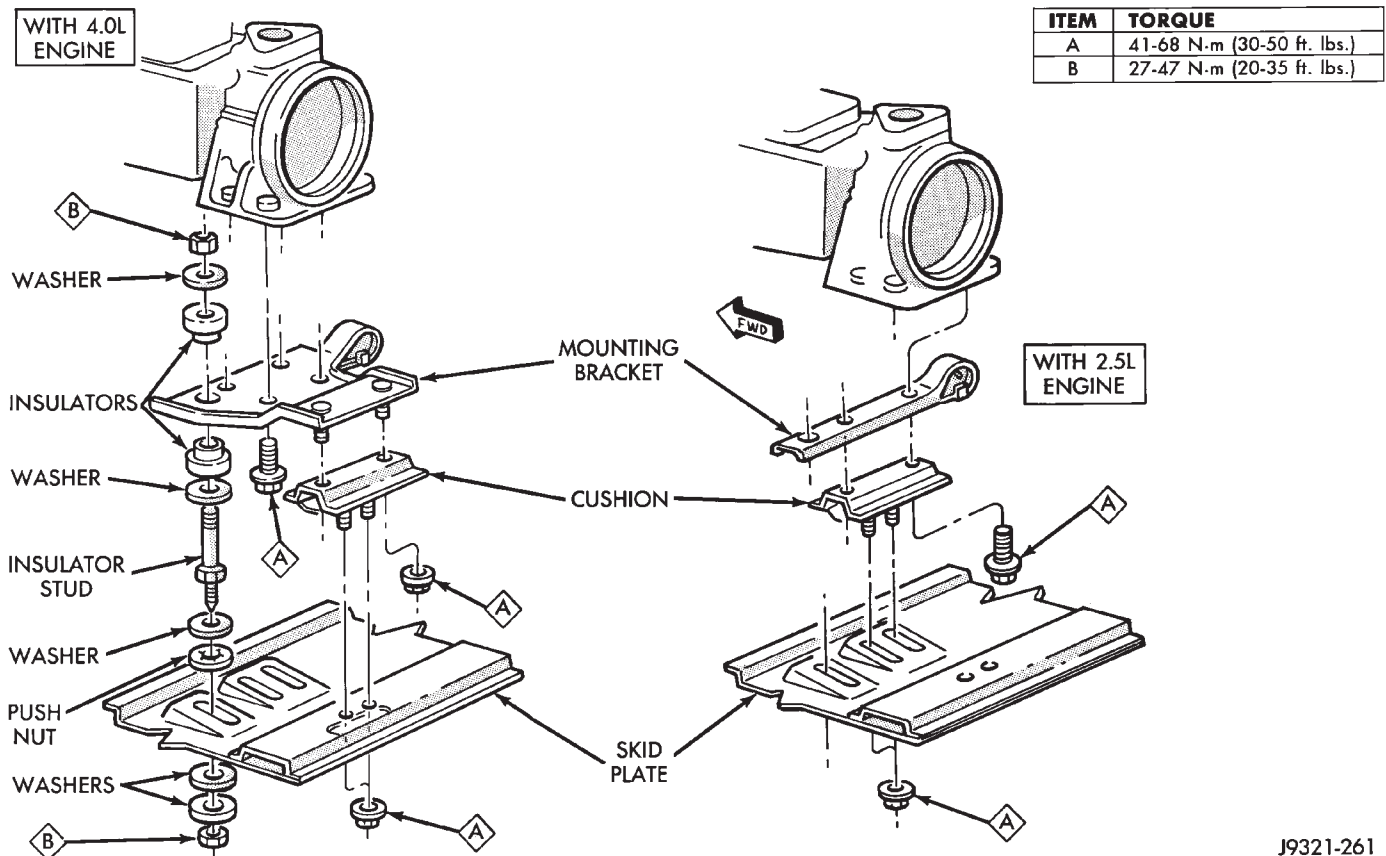
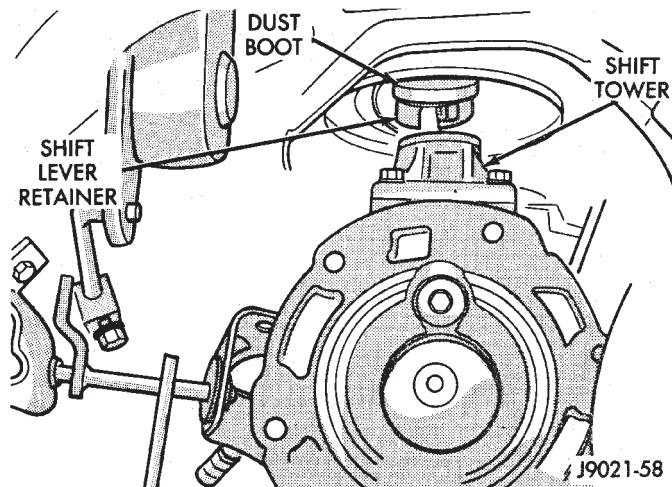

Fig. 1 Rear Mount Components (YJ Shown)
Fig. 2 Removing/Installing Shift Lever
- (1) Shift transmission into first or third gear.
- (2) Raise vehicle on a hoist.
- (3) Disconnect necessary exhaust system components.
- (4) Support transmission with adjustable jack stand.
- (5) Disconnect rear cushion and mounting bracket from transmission, or transfer case (Fig. 1).
(6) On XJ, remove rear crossmember. On YJ, remove skid plate (Fig. 1).
(7) Disconnect transmission shift linkage, speedometer cable, transfer case vacuum lines and clutch hydraulic lines.
(8) Lower transmission-transfer case assembly no more than 7.6 cm (3 in.) for access to shift lever.
(9) Reach up and around transmission case and unseat shift lever dust boot from transmission shift tower (Fig. 2). Move boot upward on shift lever for access to lever retainer.
(10) Disengage shift lever as follows:
(c) Lift lever and retainer out of shift tower (Fig. 2). **It is not necessary to remove shift lever from floorpan boot. Simply leave lever in place for later installation.**
(11) Mark front and rear propeller shafts for installation alignment (Fig. 2). Then remove both shafts.